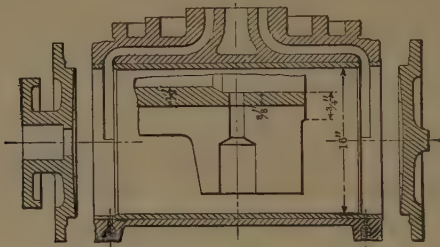

Fig. 119. Cylinder Bushing.
A. Fig. 119 shows a bushing extending from the front head to the back; Fig. 120, one ending at the inside of the back port; Fig. 121, a proposed construction in which a collar in the front end of the bush is formed to bear the pressure of the front head and avoid the necessity of bridging the port.